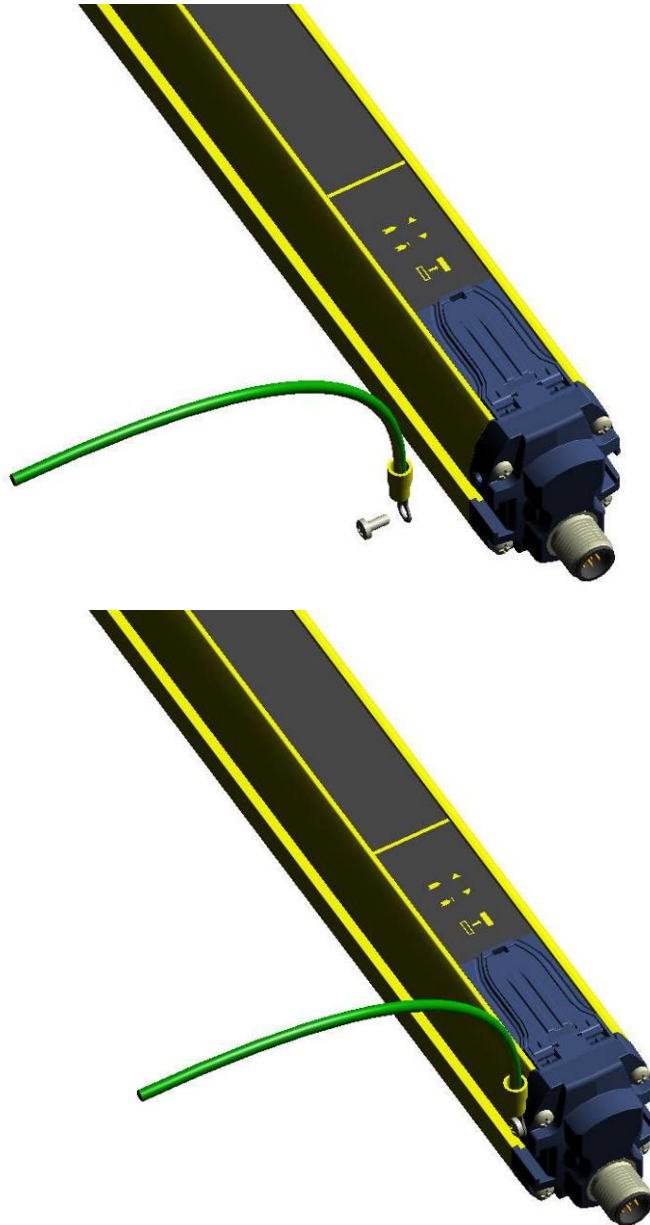

Fig. 17
- This connection can be carried-out using the screw supplied, which can be put into the proper threaded hole on the cap (see Fig. 17).